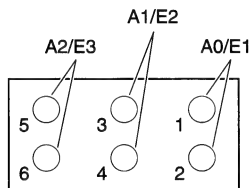

Figure 4 SCSI Select Pin Labeling and Jumper Configurations
- FIGURE 4. When on the PCB, SCSI select pins are often labeled either A0, A1, and A2 **or** E1, E2, and E3.